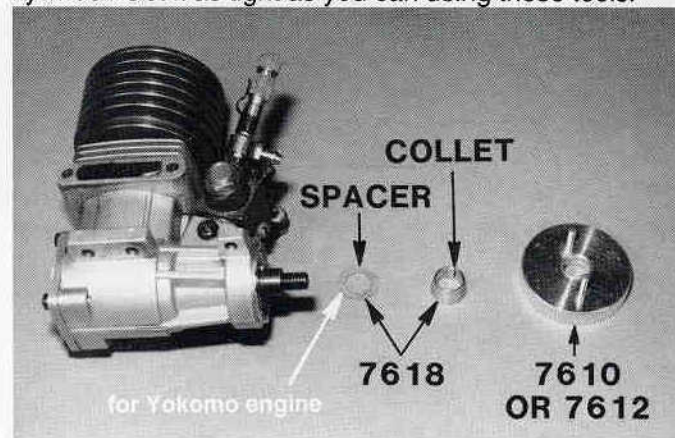

Fig. 254
□ **Figs. 254 & 255** We are now ready to start final assembly of the flywheel and clutch parts. In the clutch bag you will find the #7618 flywheel collet spacer. Install it on the crankshaft (if you have a Yokomo engine). Now you can reinstall the #7618 collet and the #7610 or #7612 flywheel. Thread on the #7603 clutch nut. Tighten the clutch nut securely to lock the flywheel to the collet. Take a pair of slip joint pliers and grab the outer edge of the flywheel. Now use your 5/16" nutdriver to tighten the clutch nut against the flywheel. Get it as tight as you can using these tools.